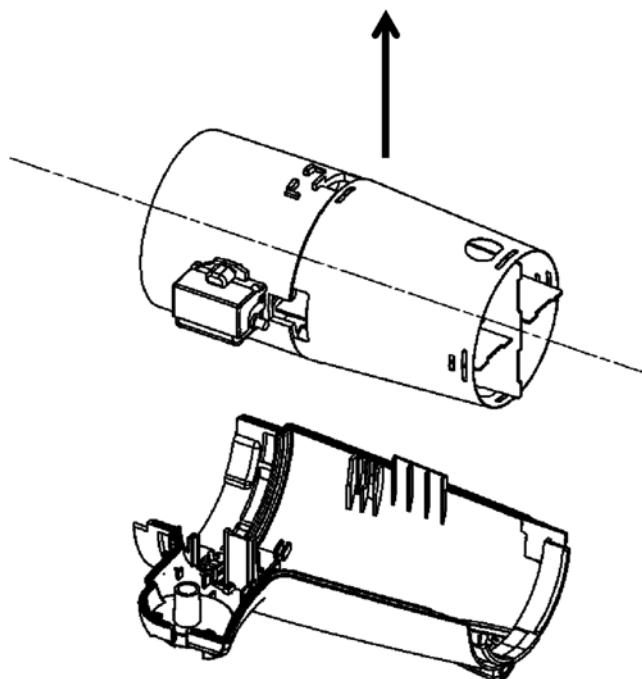

Figure 9
6. Take off a motor heater block from a housing B as figure 9.